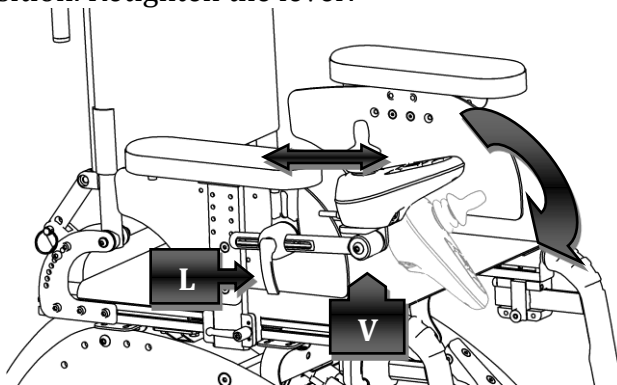

Figure 10
Loosen the lever (L), as shown in Figure 10, so it is possible to move the joystick in accordance with the directions indicated to reach the desired position. Retighten the lever.